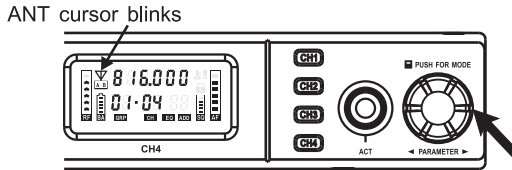

Fig. 16
- (1) Press the rotary button to select parameters. Current CH number blinks to denote it can be changed readily.
- (2) Turn the knob right to increase or left to decrease a CH number.
- (3) Press the knob again, CH number stops blinking and saves the new channel number automatically.
- (4) When SQ meter shows full-grid, it will enter CH selection forcibly.
- (5) The last group enables the user to select and save up to 16 frequencies.
## (C) ANTENNA Setting, Fig. 16: